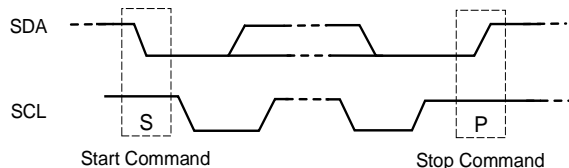

Figure 12: Start and Stop Commands
The start (S) and stop (P) commands are signaled by the initiator device, which signifies the beginning and the end of the I²C transfer. The start command is defined as the SDA signal transitioning from high to low while SCL is high. The stop command is defined as the SDA signal transitioning from low to high while SCL is high (see Figure 12).